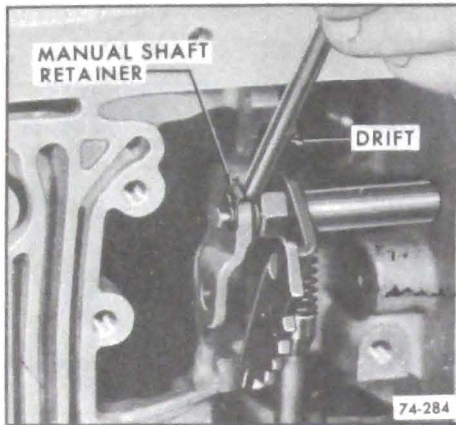

Figure 74-284
7. Install manual shaft retainer. See Figure 74-284.